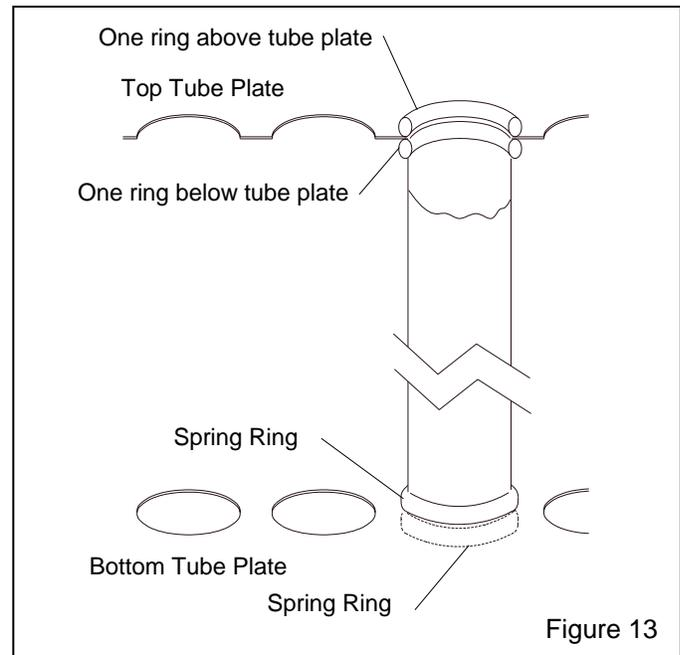

Figure 13
7.7 Dry Filter Tube Replacement, Figure 13
7.7.1 Replace damaged filters immediately. Remove the old filters by pulling the spring rings off the bottom and top tube plates. Working from the back to the front, install one filter at a time. To install new filters, form the end of the spring ringed tubular filter into a shallow "c" shape, push the filter far enough into the hole of the top plate to allow one spring ring to snap into place above the tube plate and the other to snap into place below it. See the illustration in Figure 13.